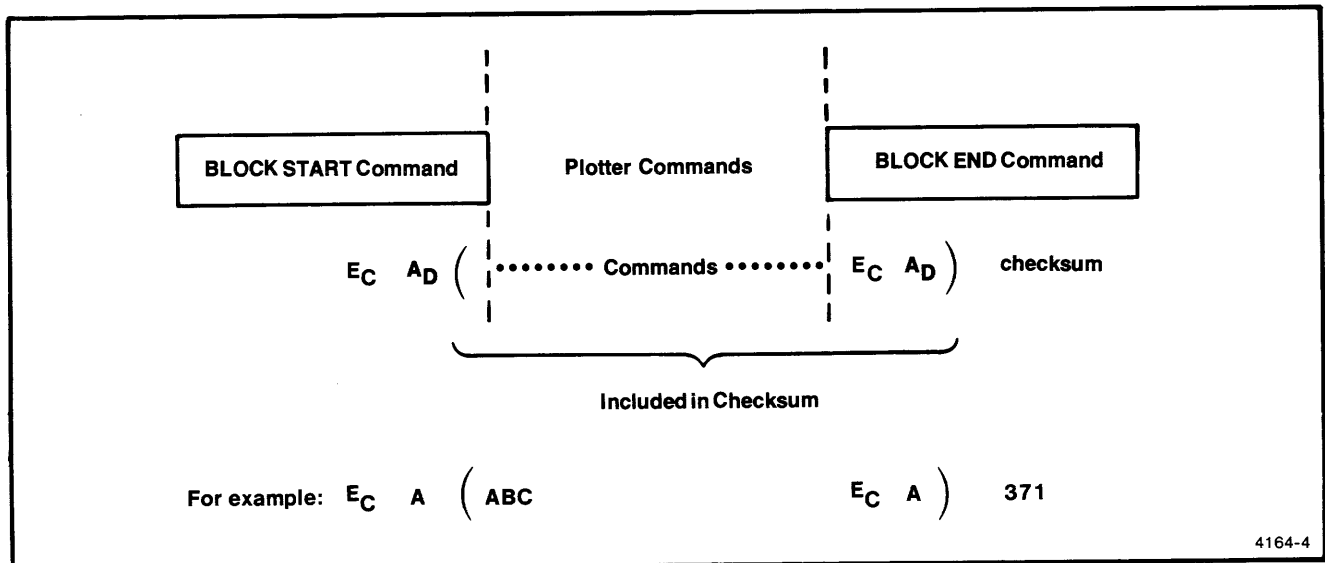

Figure 2-8. Block Mode Checksum.
**Block Mode Checksum.** The checksum contained in the BLOCK END command is computed by adding the ASCII decimal equivalent (ADE) value of each character of the block into a 12-bit accumulator with an end-around-carry of any overflow. The block characters included in the checksum extend from the ( in the BLOCK START command to the ) in the BLOCK END command, as shown in Figure 2-8. To arrive at the checksum shown in Figure 2-8, add the ADEs of characters ( , A, B, C, EC, A, and ):